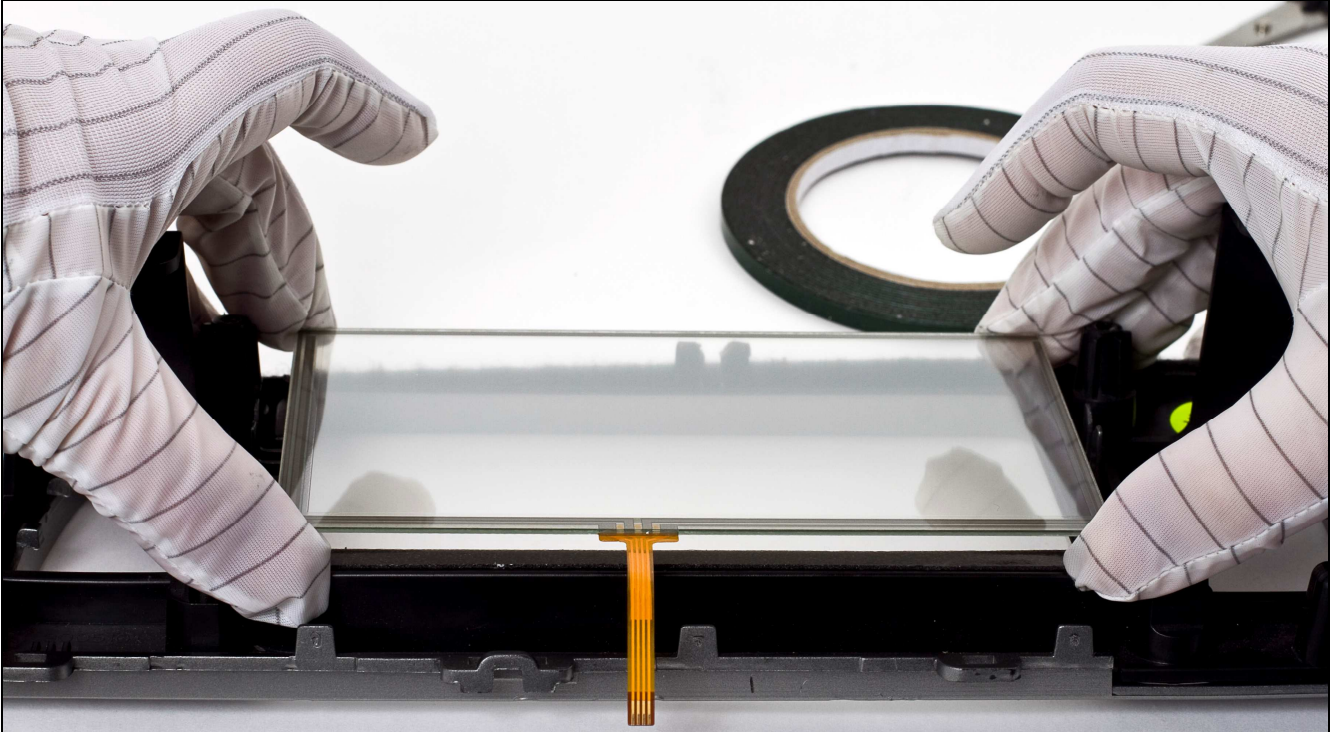

Figure 12
7. Remove the protective film from the touch panel (do it carefully and don't leave your fingerprints on the glass surface that will be facing the display) and place the panel on the foam tape (**Fig. 12, 13**). The touch screen can be installed with any orientation (i.e. with the flat cable on top or at the bottom) because the calibration process will sort this out.